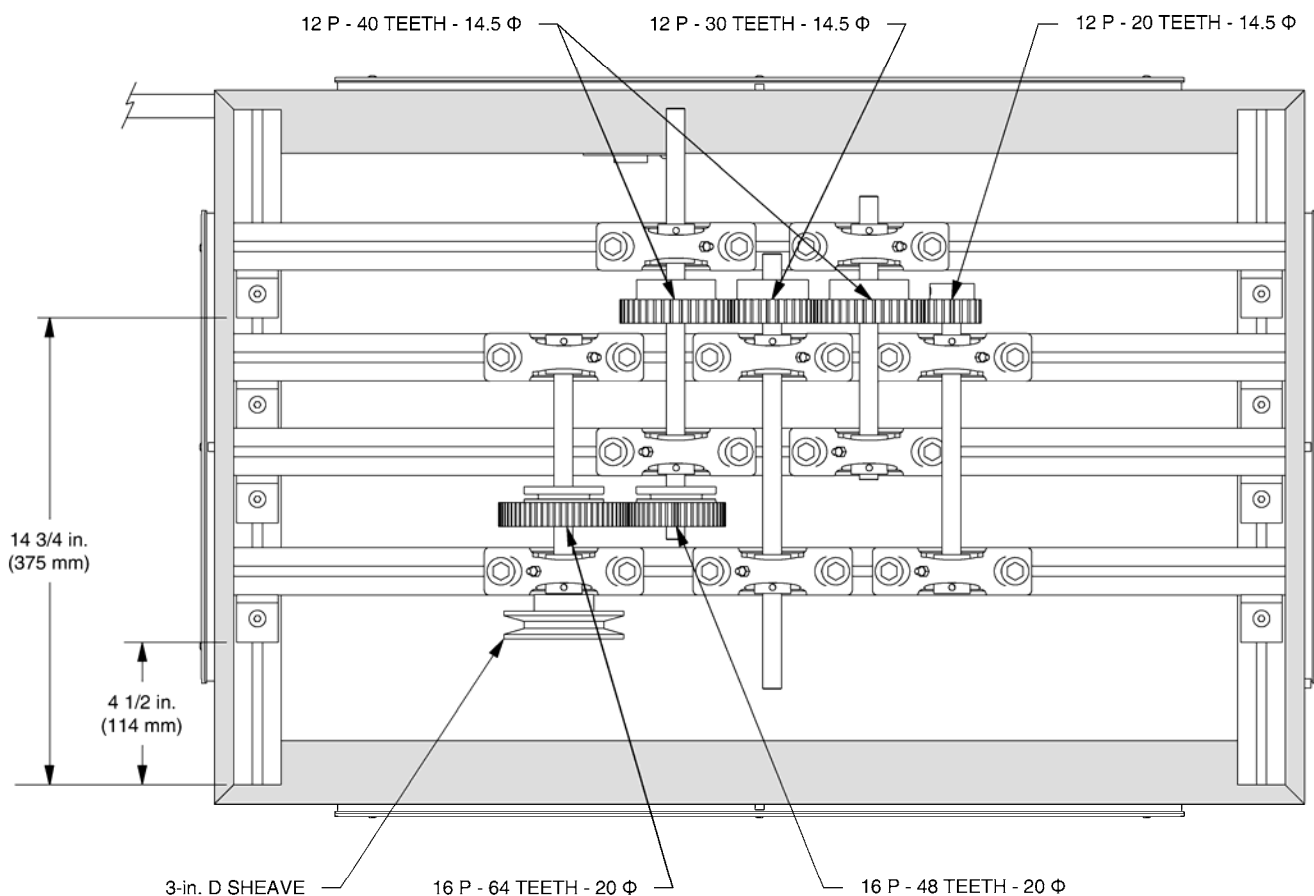

Figure 7-3. Universal base setup.
- ☐ 6. Fix four T-slotted extrusions to the universal base as shown in Figure 7-3.
- ☐ 8. Install the gears, shafts, and sheave as shown in Figure 7-3.